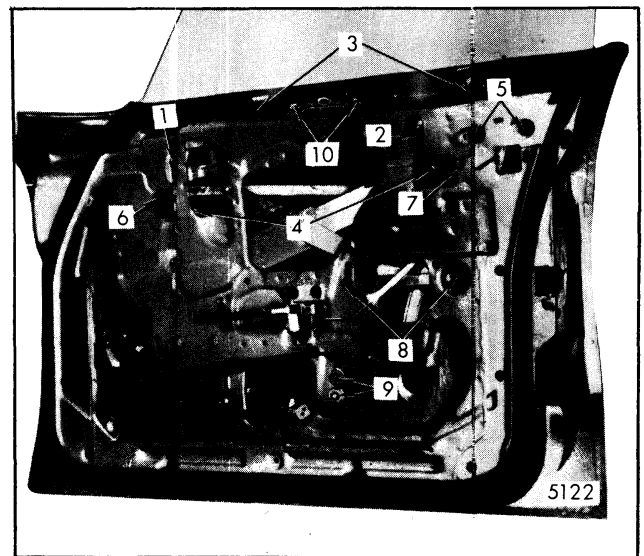
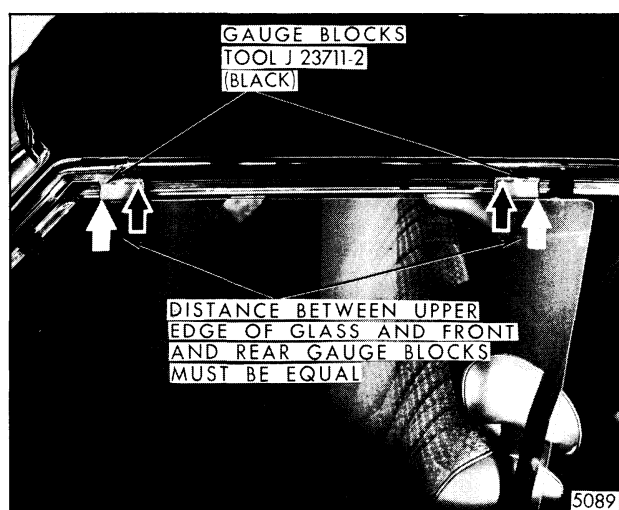
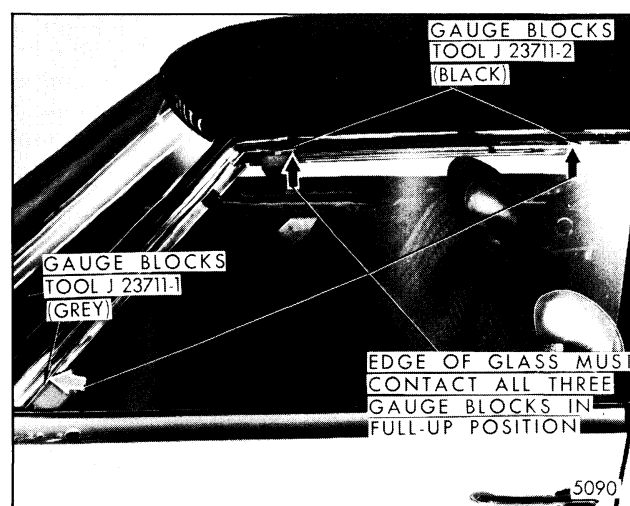

Fig. 5-98-Window Removal and Adjustment: - "B and C-39, 49" and "C-69" Styles
Fig. 5-100-Front Door Window Alignment (Rotated "Cocked" Glass in Body Opening Adjustment)
Fig. 5-101-Front Door Window Alignment (Fore and Aft Adjustment)
1. **WINDOW NOT PARALLEL WITH SIDE ROOF RAIL WEATHERSTRIP** - A rotated window condition (glass cocked in opening) can be corrected by loosening front and rear up-travel stops ("1" and "2", Fig. 5-98) and inner panel cam bolts ("8", Fig. 5-98) and raising or lowering front edge of glass in relation to rear
2. **WINDOW TOO FAR INBOARD OR OUTBOARD ALONG UPPER EDGE IN RELATION TO SIDE ROOF RAIL WEATHERSTRIP** - To adjust upper edge of window in or out in relation to side roof rail weatherstrip, loosen upper ends of front and rear guides ("6" and "7", Fig. 5-98) and belt trim support retainers ("3", Fig. 5-98) and loosen and remove guide pin stabilizer ("10", Fig. 5-98). Position guide inboard or outboard as required. Outboard adjustment of the guide assembly moves the upper edge of the glass inboard. Conversely, inboard adjustment moves the upper edge of the glass outboard. With glass in a full-up position, position trim support retainers against inner surface of glass and tighten attaching bolts. Reinstall guide pin stabilizer inboard to gain firm contact with guide support. Torque all previously loosened hardware attachments to 60 to 90 inch pounds.
3. **WINDOW TOO HIGH OR LOW IN RELATION TO SIDE ROOF RAIL WEATHERSTRIP** - To adjust window up-travel, loosen front and rear up-travel stops ("1" and "2", Fig. 5-98) and operate window to desired position to establish proper glass to side roof rail weatherstrip contact. Torque up-travel stop bolts to 60 to 90 inch pounds.
4. **WINDOW TOO HIGH OR LOW WHEN IN A DOWN POSITION IN RELATION TO THE BELTLINE** - To adjust window down-travel, loosen window down-travel bumper support ("9", Fig. 5-98) and lower or raise window to desired full-down glass height. Then, position bumper support against lower edge of glass and torque attaching bolts to 60 to 90 inch pounds.
5. **WINDOW TOO FAR FORWARD OR REARWARD IN RELATION TO PILLAR WEATHERSTRIP OR ADJACENT BODY GLASS** - To adjust window forward or rearward, loosen upper end of rear guide ("5", Fig. 5-98) and reposition glass as necessary. Upper attaching locations in the inner panel are slotted to permit fore and aft adjustment of the guide. Because the roller assembly (bell crank) which attaches to the glass at the front pivots, the front guide does not have to be adjusted during fore and aft window alignment. Torque rear guide upper attachments to 60 to 90 inch pounds.
6. **WINDOW MECHANISM BINDS WHEN OPERATING WINDOW ASSEMBLY** - Ease of window operation and window stability depends a great extent on adjustment of belt trim support retainers at beltline ("3", Fig. 5-98) and guide pin stabilizer ("10", Fig. 5-98). The trim support retainers "3" should contact glass throughout full cycle of window. However, in some cases due to slight variations in glass contour, the strip may lose contact with glass halfway through the cycle. This is permissible provided it does not result in loose glass or restrict ease of window operation. Adjust the guide pin stabilizer inboard into contact with the guide support and tighten attaching bolts. Torque all previously loosened attachment components to 60 to 90 inch pounds.
2. Detach side roof rail weatherstrip at lower front corner and carefully remove from retainer over door window, as shown in Figure 5-101.
4. Working from inside body, with door in the closed position, remove front door guide pin stabilizer attaching bolts and remove pin stabilizer ("10", Fig. 5-98). Loosen front and rear up-travel stops ("1" and "2", Fig. 5-98) and belt trim support retainers ("3", Fig. 5-98).
5. Raise front door window assembly to approximately 1" from full-up position, as illustrated in Figure 5-100. If distance (space) between upper edge of glass and front and rear gauge blocks is equal (as shown in Fig. 5-100), proceed with Step 6. If distance (space) between upper edge of glass and both upper gauge blocks is not equal, loosen inner panel cam attaching bolts ("8", Fig. 5-98) and adjust glass as necessary.
If upper and forward edge of glass contacts all three gauge blocks at the same time (as shown in Fig. 5-101), proceed with Step 7. If upper and forward edge of glass does not contact all three gauge blocks simultaneously, loosen fore and aft adjustment on rear guide ("5", Fig. 5-98) and move glass forward or rearward until the edge of glass contacts all three gauge blocks in full-up position.
8. With glass in full-up position against upper gauge blocks, tighten up-travel stops ("1" and "2", Fig. 5-98) and adjust belt trim support retainers ("3", Fig. 5-98) outboard until they lightly contact door glass, then tighten. Reinstall front door guide pin stabilizer pin inboard to gain firm contact with guide support then reinstall and tighten attaching bolts.
2. Remove front and rear window up-travel stops ("1" and "2", Fig. 5-98) and guide pin stabilizer ("10", Fig. 5-98).
3. Loosen front and rear belt trim support retainers ("3", Fig. 5-98).
4. With window in three-quarter-down position, remove lower sash channel cam to glass attaching nuts ("4", Fig. 5-98). Remove window by lifting straight up and aligning rollers with notches provided in the door inner panel. Remove rear end of window first, then front end.
4. Remove ventilator division channel lower adjusting stud and nut and window regulator attaching bolts (Fig. 5-100).